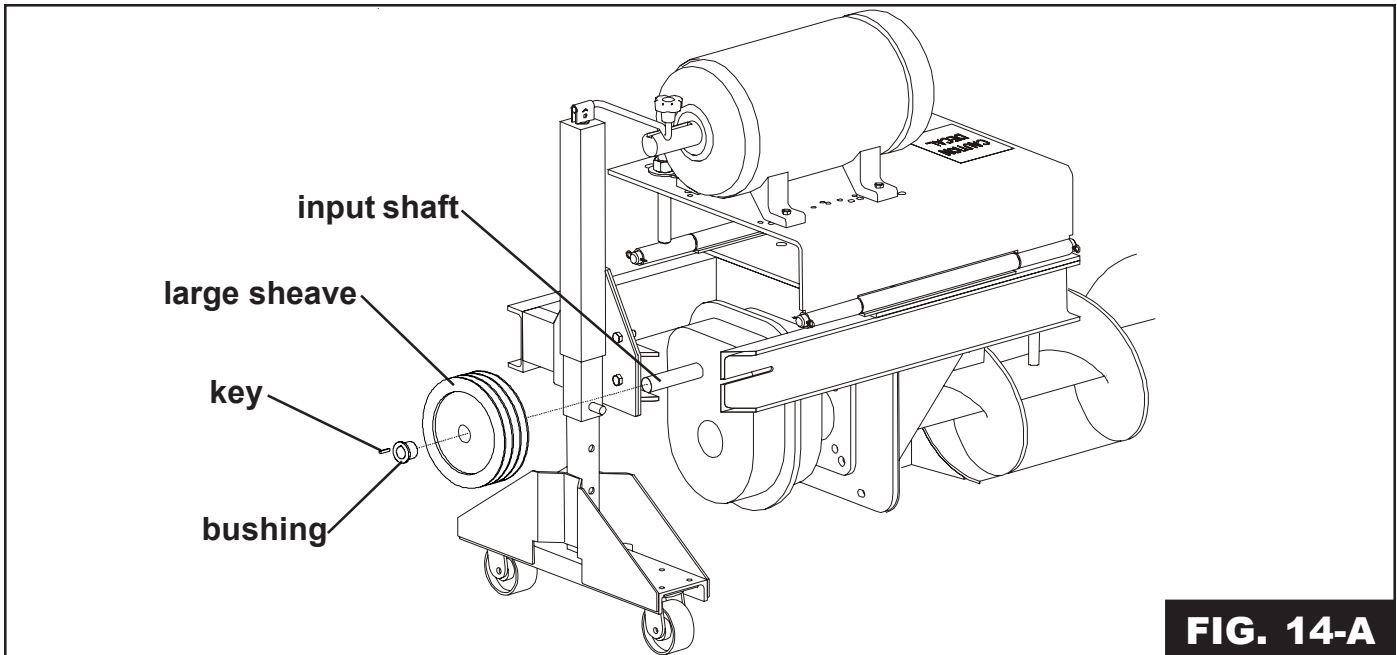

FIG. 14-A
- B. Slide the bushing and large sheave onto the auger gear reducer input shaft with a key. (See Fig. 14-A)